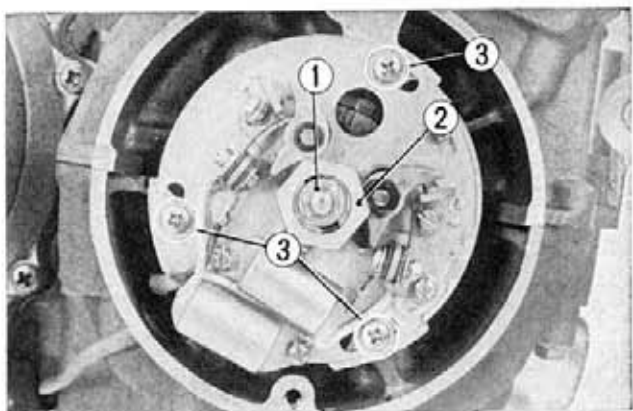

Fig. 7-16 ① 6 mm hex nut
3. Unscrew the 6 mm hex nut and remove the contact breaker assembly. (Fig. 7-16)